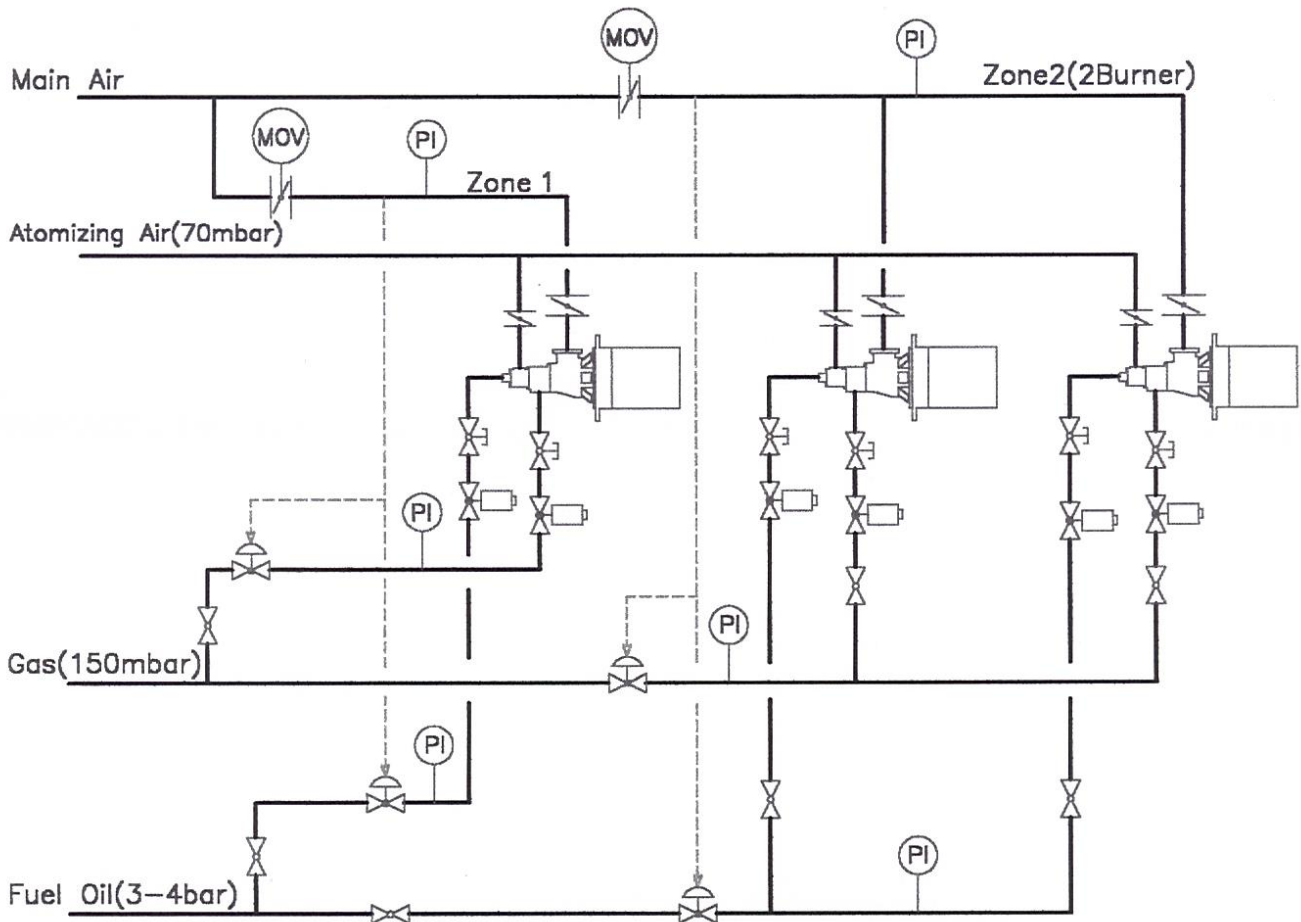

Fig 1 Suggested Piping Arrangement for NAHGO Burner
- b) Pipe air and fuel lines in a manner similar to that shown in Figure 1 . Flexible connections are recommended in air and fuel lines to minimize strain from piping and thermal expansion .
- d) Connect impulse piping as shown in Figure 1 . These piping arrangements are designed to keep air and gas flows on desired ratio at all firing rates .